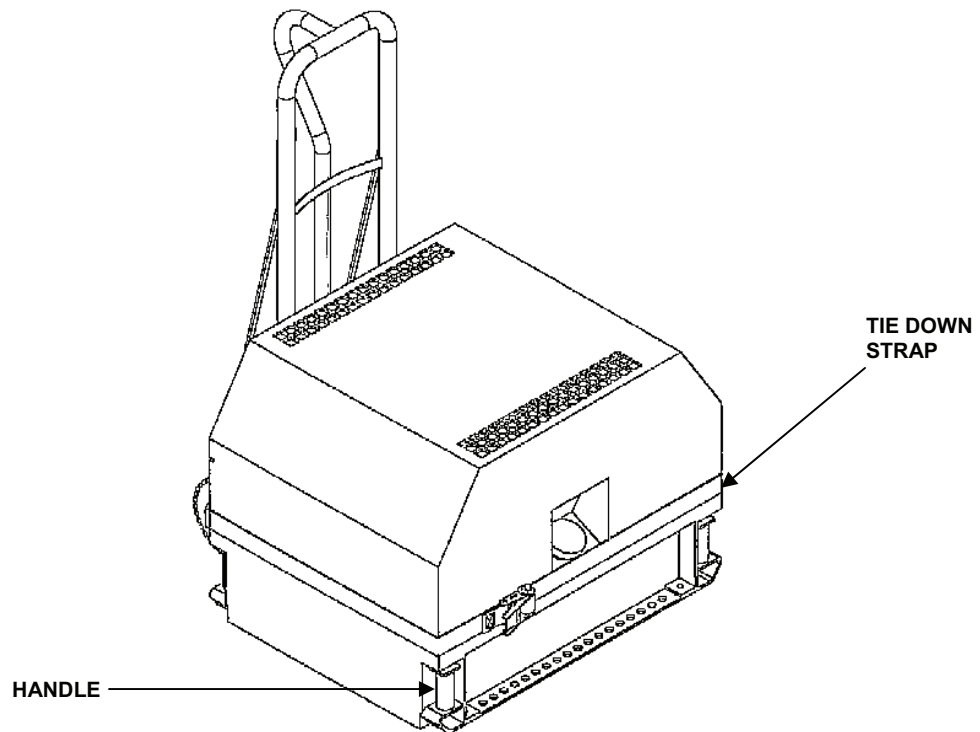

Figure 16. 3kW TQG Set Secured to Hand Truck
4. Secure with a tie-down strap around 3kW TQG set and hand truck handle. Tighten securely. See Figure 16.